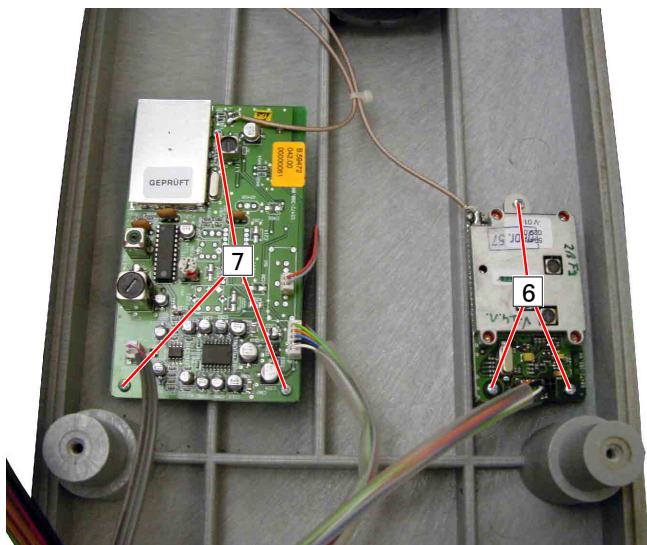

Fig. 6
2. Removing the Data Radio Module (Fig. 6)
3. Removing the Receiver Board (Fig. 6)